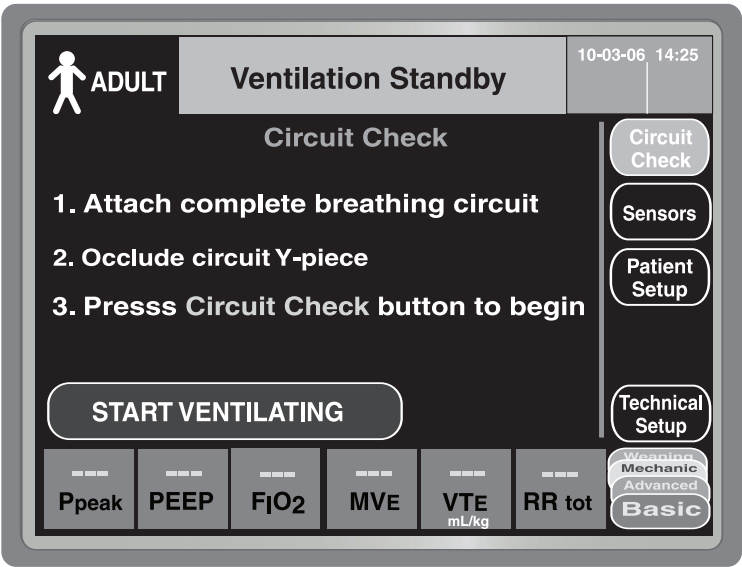

Figure 2-15 Ventilation Standby Screen
- 6 Follow the instructions that appear on LCD touch screen as shown in Figure 2-15.